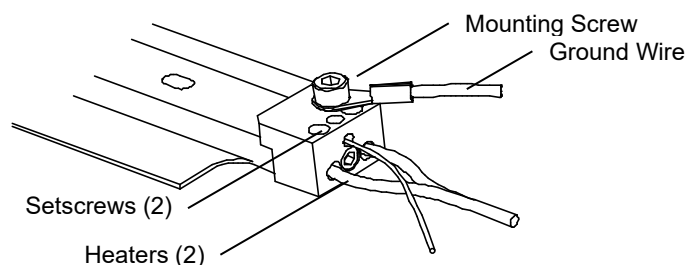

Figure 19 • Heater Replacement
- Unscrew the ground wire from the holder, using a 7/64" ball driver (see Figure 19).
- Use a 1/16" hex driver to loosen the two setscrews that secure the heaters in place, as indicated in Figure 19.